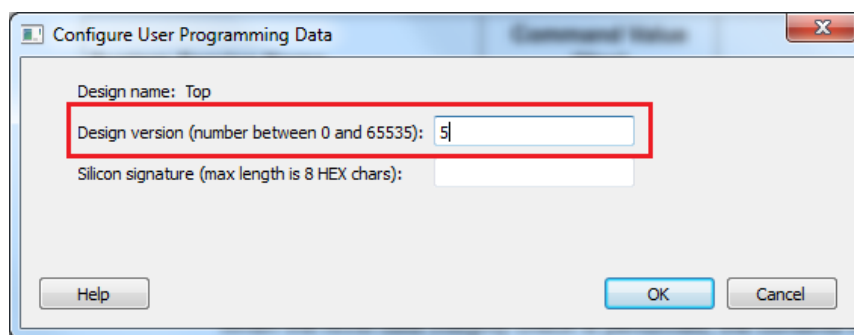

Figure 3 • Configure User Programming Data
1. Enter **Design Version** in the **Configure User Programming Data** window as shown in Figure 3.